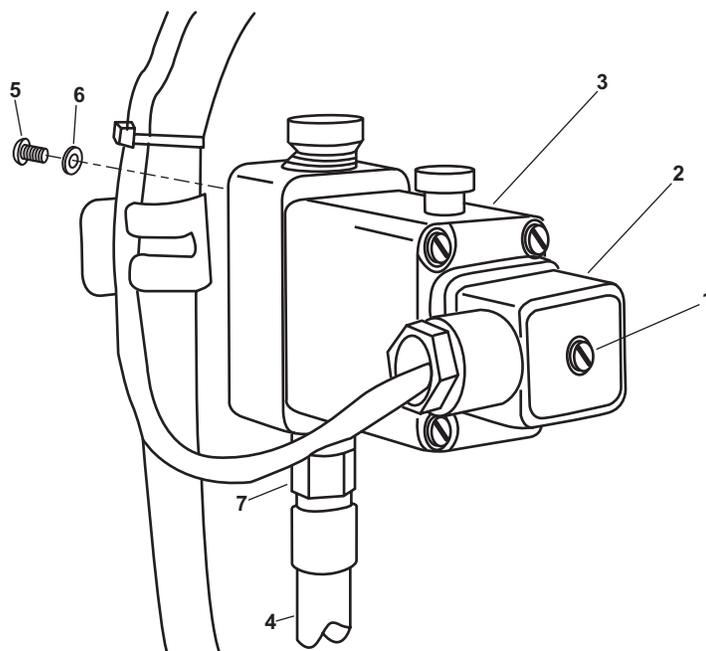

Figure 7. Fresh Water Flush Diverter Valve
5. Remove the screw (figure 7, item 1) that secures the wire plug (figure 7, item 2) to the fresh water flush diverter valve (figure 7, item 3).
6. Disconnect the piping (figure 7, item 4) from the fresh water flush diverter valve (figure 7, item 3).
7. Remove the four screws (figure 7, item 5) and four flat washers (figure 7, item 6) that secure the fresh water flush diverter valve (figure 7, item 3) to its foundation.
8. Remove the pipe fittings (figure 7, item 7) from the fresh water flush diverter valve (figure 7, item 3). Retain the pipe fittings.
1. Wrap the male threads of the pipe fittings (figure 7, item 7) with four wraps of antiseizing tape.
2. Thread the pipe fittings (figure 7, item 7) into place on the fresh water flush diverter valve (figure 7, item 3), and tighten snugly into place.
3. Position the fresh water flush diverter valve (figure 7, item 3) on its foundation, and secure it in place with four screws (figure 7, item 5) and four flat washers (figure 7, item 6).
4. Connect the piping (figure 7, item 4) to the fresh water flush diverter valve (figure 7, item 3).
5. Slide the wire plug (figure 7, item 2) onto the fresh water flush diverter valve (figure 7, item 3), and secure it in place with the screw (figure 7, item 1).